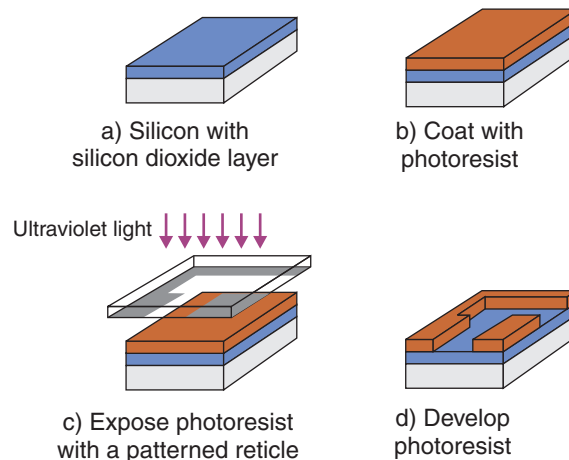
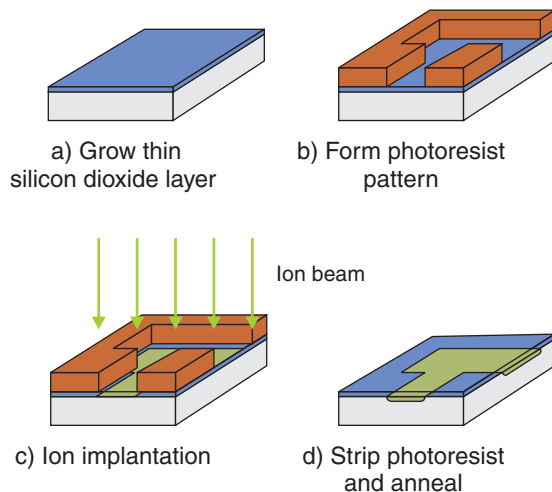

Figure 7. Photolithography process.
Figure 8. Ion Implantation.
- Exposure - the exposure step photographically transfers a pattern from a reticle to the photoresist coating on the wafer surface. Reticles are glass plates with patterns of opaque and transparent areas. A reticle will typically have the patterns for a few die on it and will be stepped across the wafer exposing the pattern after each step to cover the wafer with patterns. In order to ease the task of reticle fabrication and make the process less defect sensitive, reticle patterns are either 5x or 4x the size of the desired feature on the wafer, and the reticle pattern is optically shrunk before reaching the wafer. Figure 7 illustrates pattern formation on a wafer by photolithography.
The Ion Implantation process is made selective by using a photoresist pattern to block impurity ions from reaching silicon where no impurities are desired. The selective introduction of impurities process begins with the growth of a thin silicon dioxide layer. The silicon dioxide layer protects the silicon surface, but must be thin enough not to block the implanted ions. Photoresist is then applied and patterned as outlined in figure 7, and ion implantation is performed. Following ion implantation, the photoresist is stripped off and a high temperature furnace process is used to anneal out the damage from the high energy ions impacting the silicon - see figure 8.